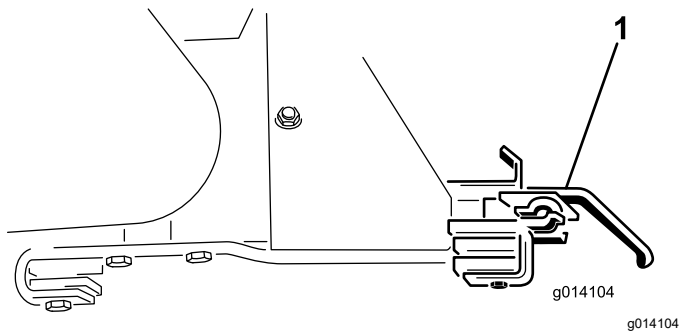

Figure 53
18. Remove the two option attachment brackets (Figure 53).